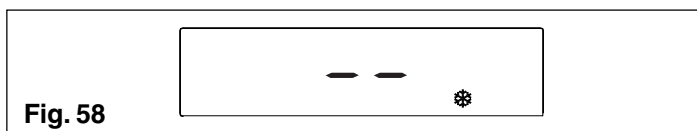

Fig. 58
- anti-freeze (fig. 58): when the temperature of the water in the boiler falls below safety values, the circulator and the burner work at minimum power to increase the water temperature to a safe value (35 °C). The snowflake symbol lights up on the display.